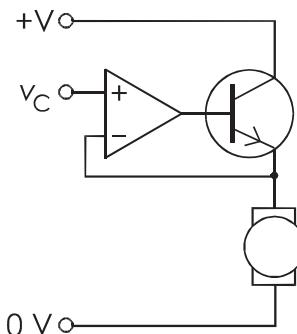

FIGURE 33.4 An op amp with negative feedback. Varying v_c sets the speed of the motor.
- **Op amp closed loop control:** The circuit in Figure 33.4 has negative feedback. The op amp monitors the voltage across the motor and acts to keep it constant, equal to the control voltage, v_c . This ensures constant current through the coils, keeping it turning at constant speed in spite of variations in the load.